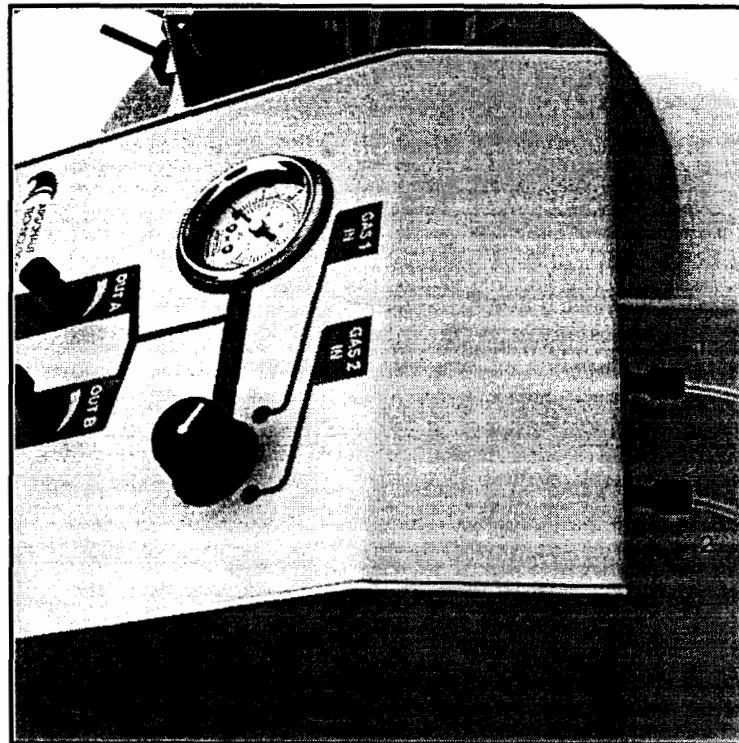

Figure 3: Control Box showing Gas Connections 1 and 2
5. Attach one end of the Inert Gas Inlet Line (Part number 300795) to side C of the "T". Connect the other end to input 1 of the GRCM Control box. See Figure 3 below.
6. Insert the 1/8 inch PEEK fitting of the reagent gas inlet line (Part number 300796) to input #2 of the Control box and make finger-tight. Connect the compression fitting on the other end of this Teflon tubing to the outlet of the reagent gas regulator. Do not set the regulator above 30 psig (3.08 barr). See Figure 3 below.